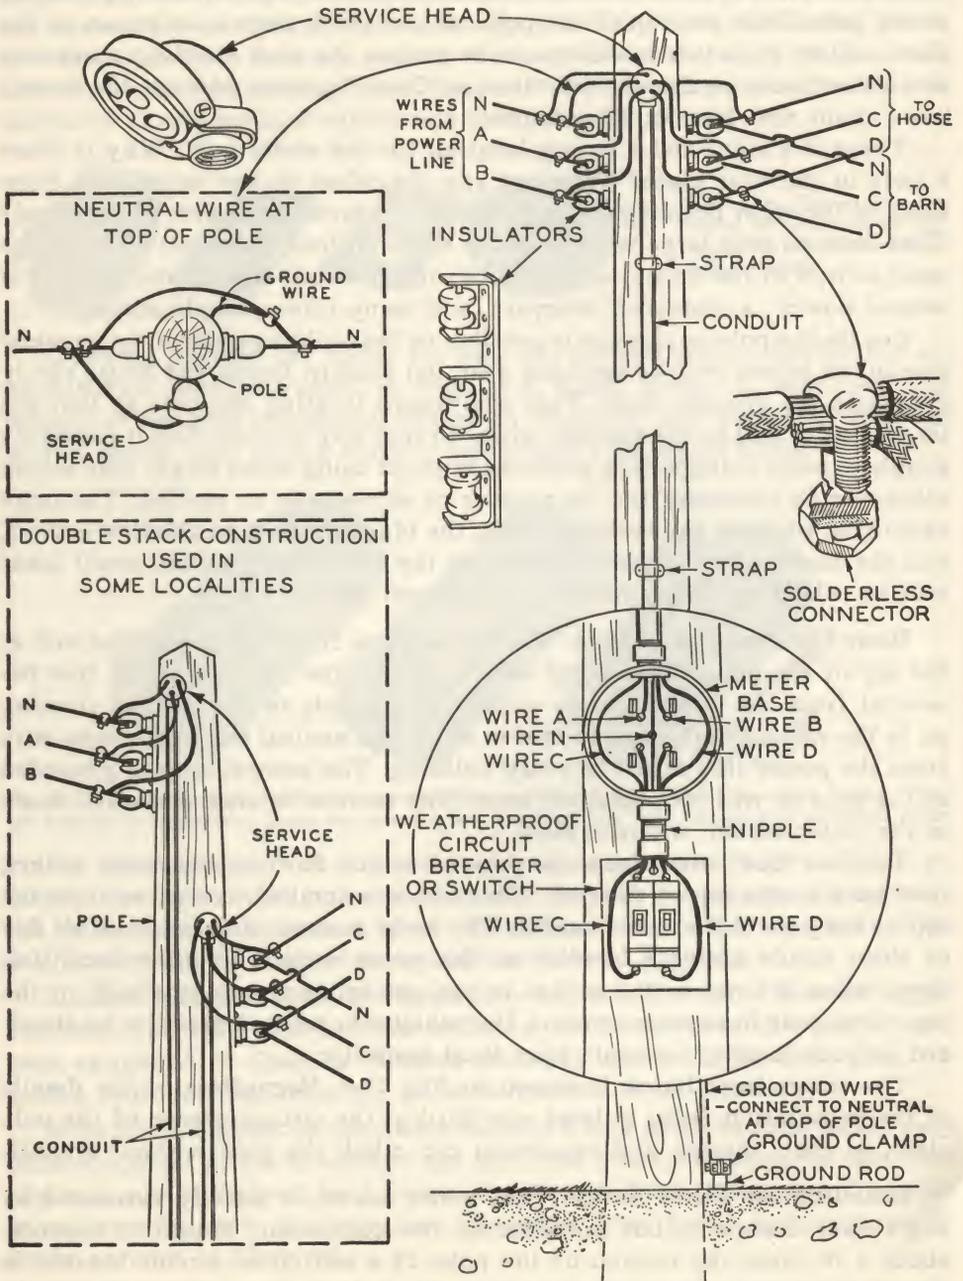

Fig. 17-6. Typical meter-pole installation on a farm.
The entire installation is shown in Fig. 17-6. Regardless of the details of the installation, leave at least one-third of the circumference of the pole clear, so that linemen and repairmen can climb the pole without trouble.
**Installing the Stack:** Whether you use a single-stack construction (all wires in one conduit) or the double-stack, the general procedure is the same. In the past the conduit has often ended at a point below the insulators, which then required great care in installing the wires to make sure that a drip-loop was provided, as was shown in Fig. 7-16. The purpose of the drip-loop is to prevent water from following the wires into the service head. The Code requirement today is to bring the top of the conduit to a point above the topmost insulator, as shown in Fig. 17-6, thus automatically solving the water problem.
**Connections in Meter Socket:** The two "hot" wires from the power line always run to the top terminals in the meter socket. If the usual switch or circuit-breaker is used below the meter, the connections are as shown in the inset in Fig. 17-6. If this switch or circuit breaker is not used, the two wires C and D in Fig. 17-6 run directly to the bottom terminals of the meter socket. The neutral wire is connected to the center terminal on the meter, for grounding purposes. The neutral is not necessary to make the meter operate.